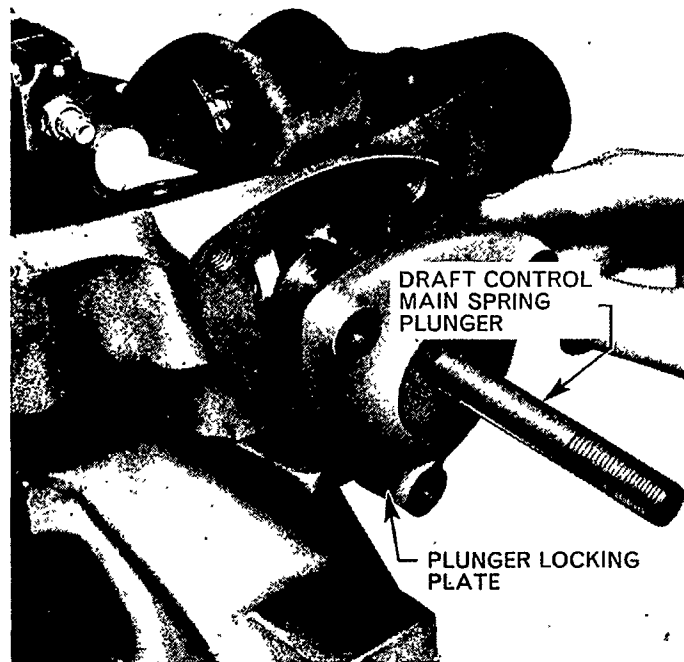

Figure 40
- a. Install the draft control main spring plunger locking plate, Figure 40.